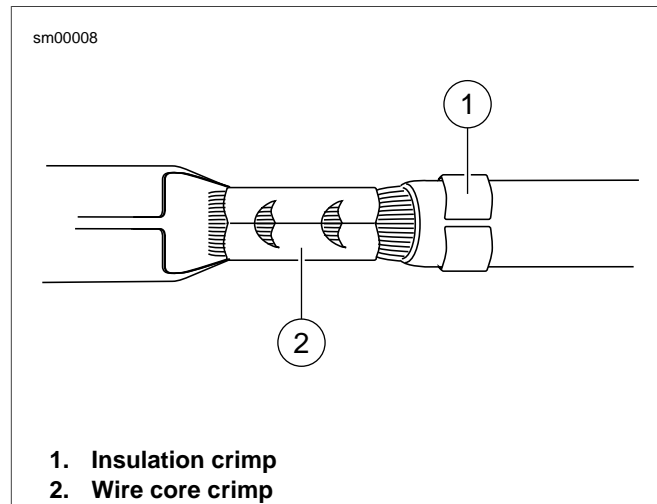

Figure A-7. AMP Multilock Connector: Terminal Crimp
See Figure A-7. Inspect the wire core crimp (2) and insulation crimp (1). Distortion should be minimal.